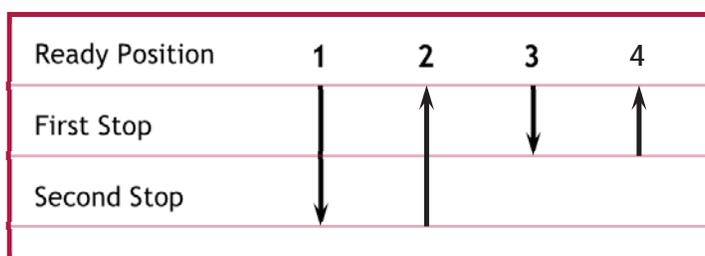

Figure 3. Reverse pipetting technique.
3. To avoid complications due to bubbles, U-CyTech recommends the use of the “Reverse Pipetting” technique during all pipetting steps (see Figure 3).